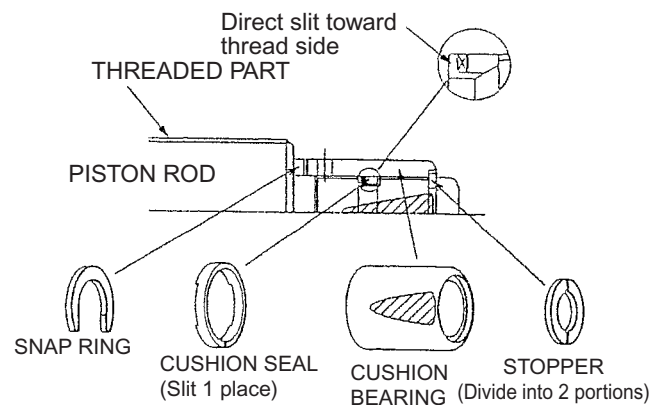

Fig. 32-53 Cushion mechanism on retraction side
- 3) Install the cushion bearing with the flattening side as shown in Fig. 32-53.